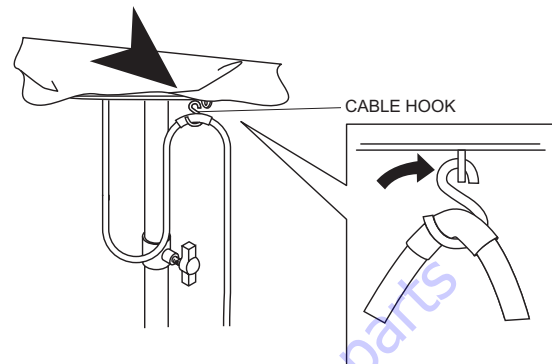

Figure 18. Securing Cable with Hook
4. Secure the power cable by hooking it to the eyelet on the bottom of the balloon as shown in Figure 18.